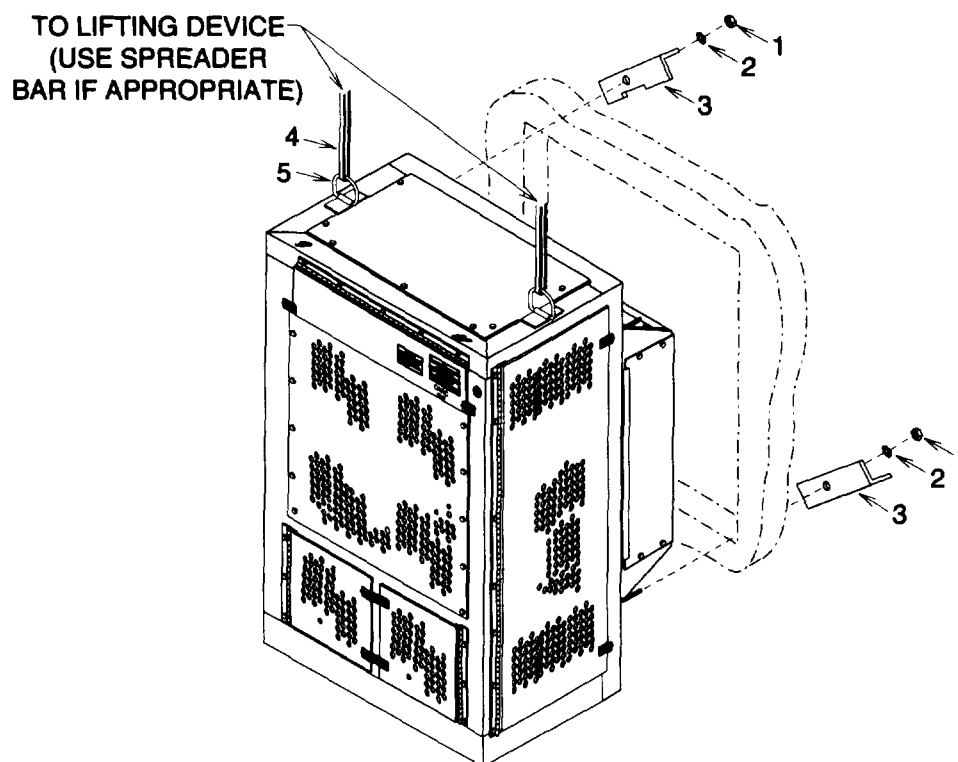

Figure 4-2. Installation
- (1) Remove four nuts (1, fig. 4-2), lock washers (2), and unit mounting angles (3) if attached to the refrigeration unit. If the mounting hardware is not attached, locate it now.
- (2) Attach the sling(s) (4) to the lifting rings (5).